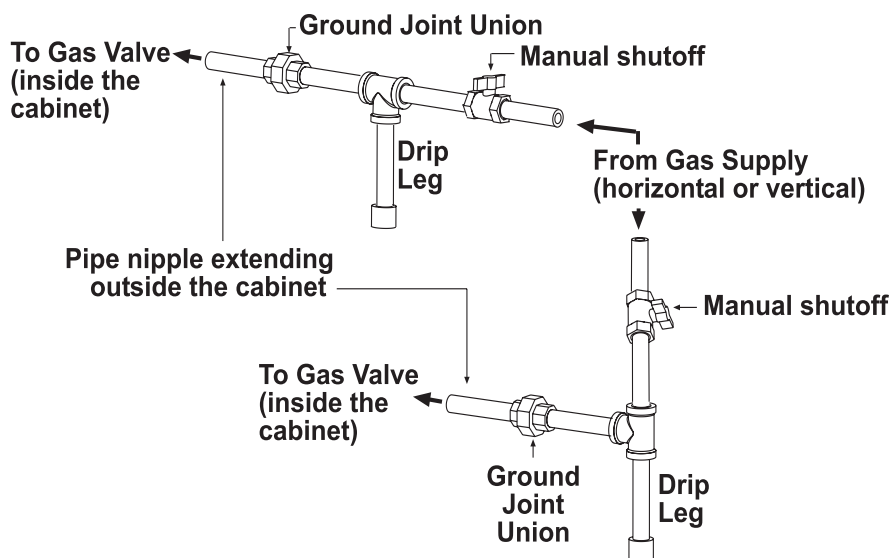

Figure 9. Gas Connections
- Install a ground joint union and manual shutoff valve upstream of the unit control system, as shown in Figure 9.
- The 1/8-inch plugged tapping in the manual shutoff valve in Figure 9 provides connection for a supply line pressure test gauge.
- The National Fuel Gas Code requires the installation of a trap with a minimum 3-inch drip leg (see Figure 9). Local codes may require a drip leg longer than 3 inches (typically 6 inches). To permit burner removal, this drip leg must extend beyond the edge of the heater.
- The gas connection is made at the pipe nipple that extends outside the cabinet, as shown in Figure 9. Gas connection sizes are listed in Table 15.